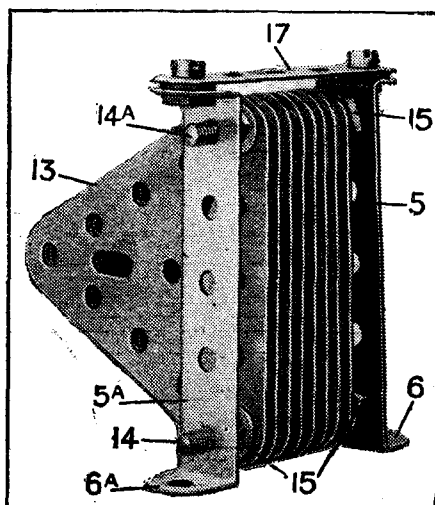

Fig. 2.
It is made by connecting together eight 2½-in. Meccano triangular plates at the lower end by a 2-in. threaded rod (14, Fig. 2),
The fixed portion of the condenser (Fig. 2) may now be fastened in position between 2½-in. and 1½-in. angle strips (5 and 5a). A 2½-in. strip (17) is bolted at the top with a spacing washer at each end, and extra nuts (15) are threaded to both ends of the rods (14 and 14a) to centralise them. The strips 5 and 5a are then secured to the plate at 6 and 6a by two No. 6 B.A. bolts, with